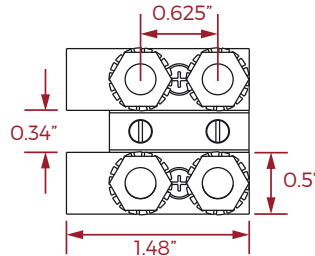

Figure 6. Input Bus Bar Detail
9.2 Input Connections. See Figure 6. The DC power inputs to the distribution panels are made by means of crimp type lugs or direct connection to 1/4-20 studs to two copper bus bars on side A and side B. The upper bus bar is the battery connection (whether + or -) and the lower bus bar is the return (whether + or -).